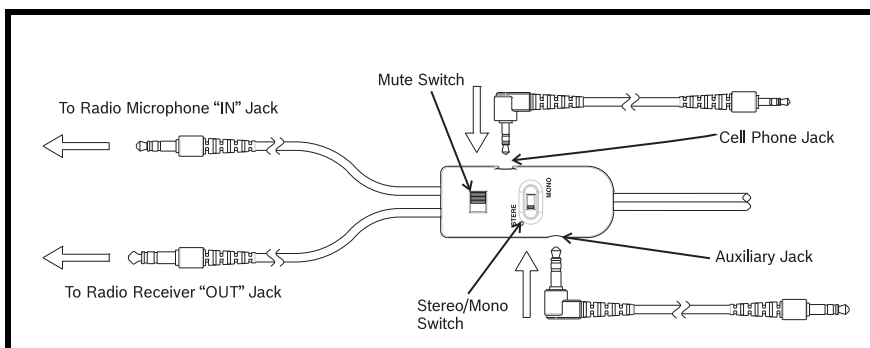

FIGURE 4. Headset Connections
2. Connect the **headset** as shown in Figure 4. If using the standard version, set the MONO/STEREO headphone switch to match the type of sound system in your aircraft. If the headset is set for stereo and the intercom is set for mono, sound will only come out of one (1) earcup.
The Stratus 50-D headset is equipped with a switch to quickly and completely disables the cell phone and auxiliary audio devices. See Figure 4.